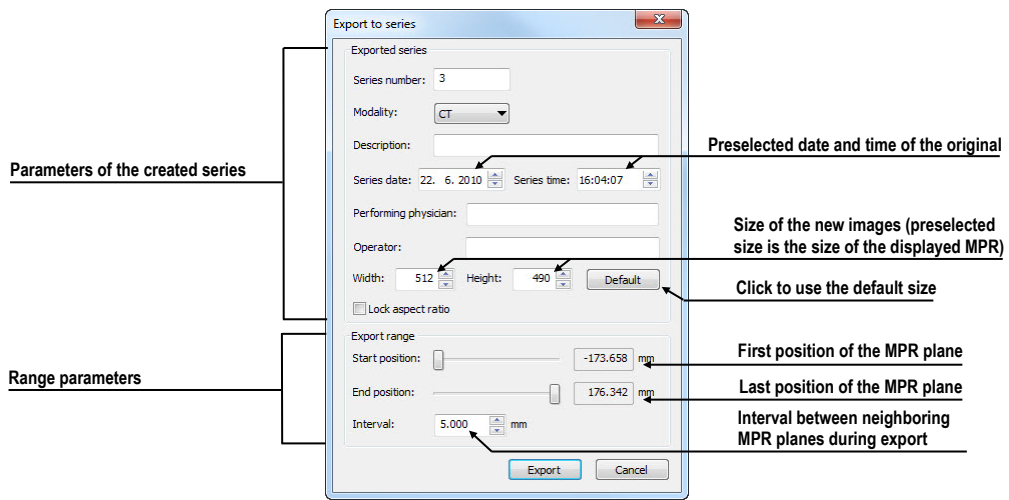

Figure 204 – Export to series dialog
3. The **Export to series** dialog will be displayed. In this dialog you can set the parameters for the MPR export (see Figure 204).